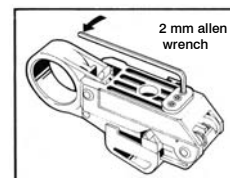

Figure 20
**D.** Adjustment of the adjustment screws. Rotate adjustment screws clockwise until they touch the gauge (Fig. 20). Then open the tool and remove the gauge. Install the cassette, and the tool is now ready for use.